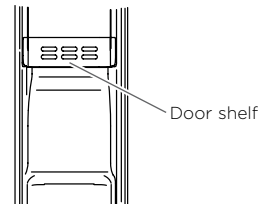

Fig.12 Installation of extra door shelf
- **Turning the ice maker off and removing the icebox enables extra space for food storage. Install the additional door shelf at the position above the inlet on the freezer door (Fig.12).**